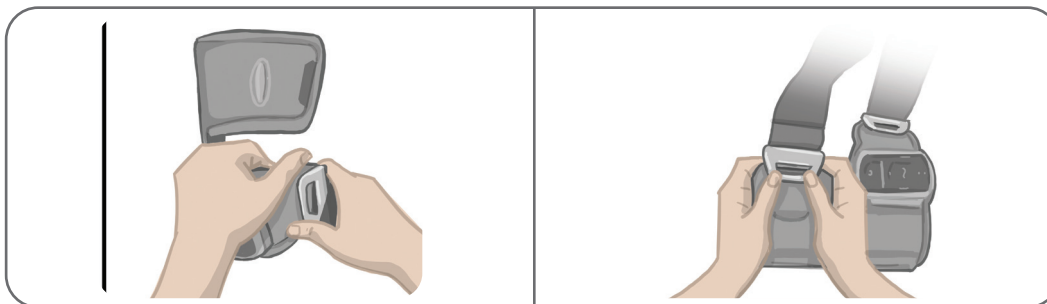

Figure 11-12: Removing the Thigh Straps
1. Push the attached thigh strap buckle toward the Thigh Cuff while making a twisting motion. See Figure 11-12.